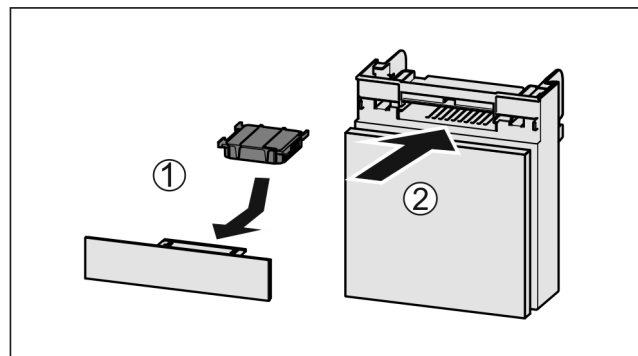

Fig. 243
- ▶ Insert the carbon filter as shown in the diagram Fig. 243 (1).
- ▶ Push the compartment in Fig. 243 (2).